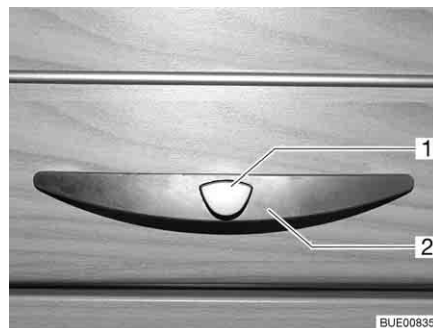
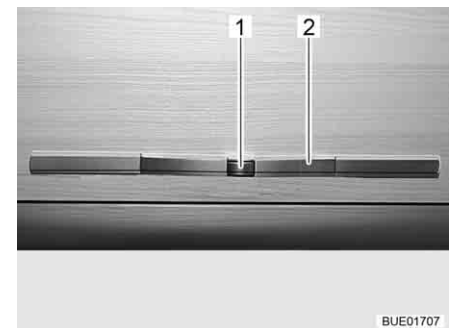

Fig. 52 Furniture flap with handle (example)
Fig. 53 Furniture flap with handle (alternative)
- Press the release knob (Fig. 52,1 or Fig. 53,1) on the handle (Fig. 52,2 or Fig. 53,2) and hold it down.